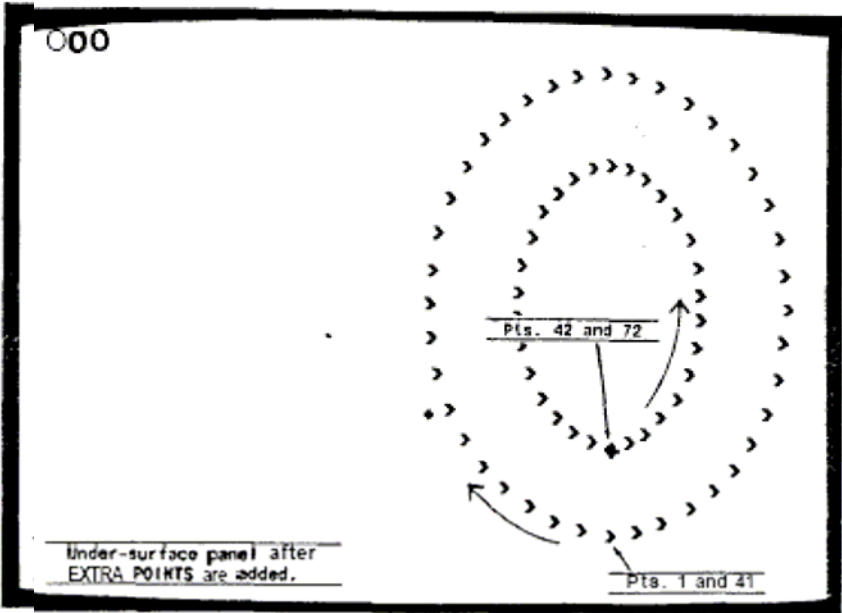

fig. 49B (HIGH LINE GRAPH)
6. Use the " < " (Back/LOW LINE) key to move the cursor each time, while plotting all extra points of the loop, In a counterclockwise direction, completely around the Inner perimeter. Plot the last point directly on the first point at the bottom of the inner loop (see fig. 49B).